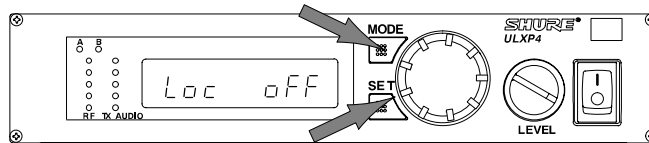

FIGURE 43
1. Hold down the receiver SET button and press the MODE button three times. “Loc” will appear on the receiver display. See Figure 43.